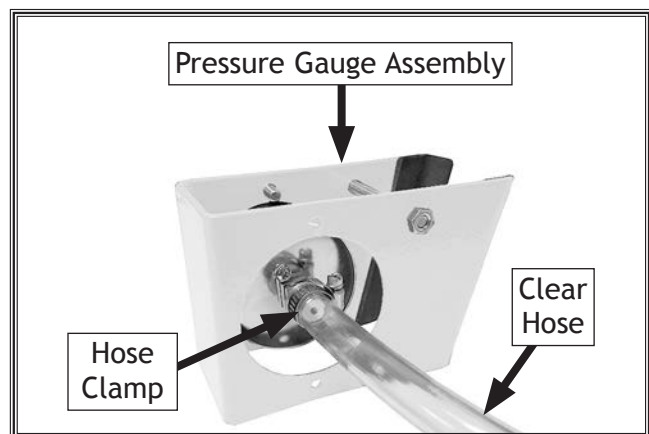

Figure 3. Clear tube placed over pressure gauge port.
2. Place (2) ½" hose clamps around clear tube, then slide one end of tube over port on back of pressure gauge (see Figure 3).